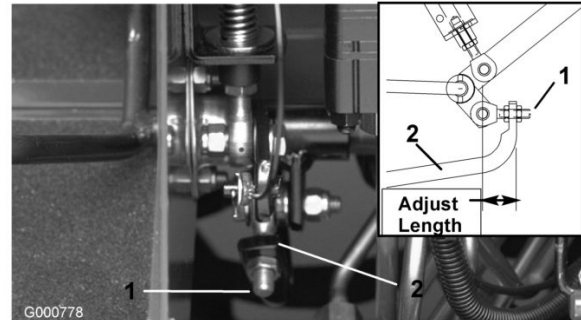

Figure 70
4. Adjust jam nuts on pump rod end to move pump control tube forward to eliminate forward creep or rearward to eliminate rearward creep (Figure 70).